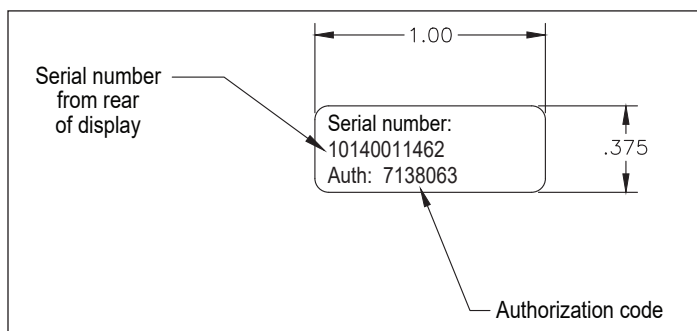

Figure 9. Example authorization code label on rear of display.
7. On boot-up, enter the 7-character authentication code that is printed on a label on the back of the display (see Figure 9). Click Return. The authentication box will turn from red to green.
12. Enter the 7-character authentication code that is printed on a label on the back of the display (see Figure 9). Click Return. The authentication box will turn from red to green.